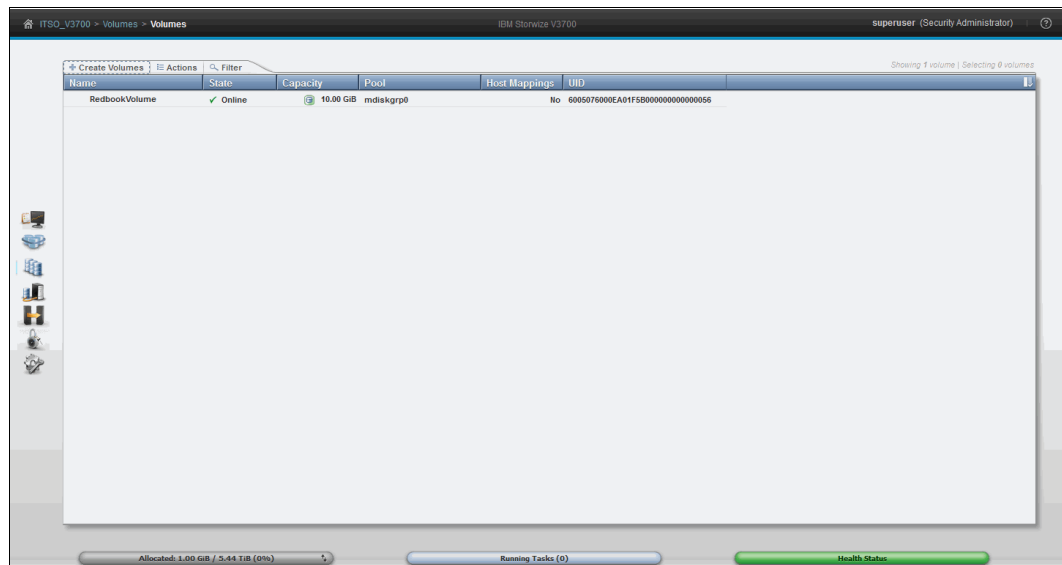

Figure 5-11 The Volumes view with the newly created volume listed
- Click **Close** to return to the Volumes view, which now lists your newly created volume, as shown in Figure 5-11.